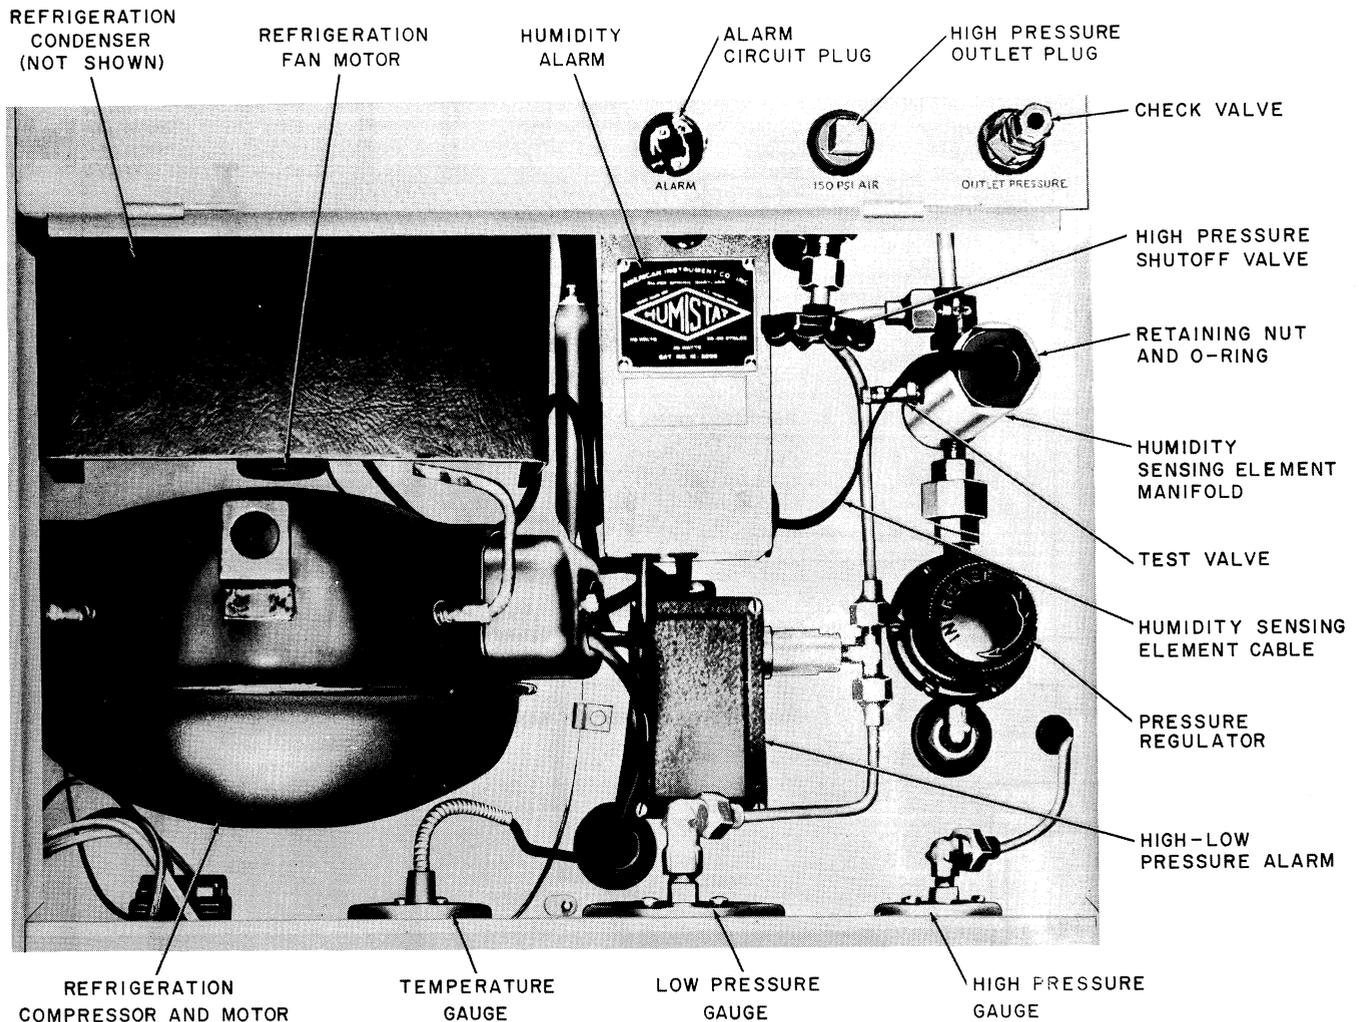

Fig. 3—KS-16432 L1 Air Dryers With Serial Numbers 3000 and Up and All L2 Dryers—Top View With Cover Removed
- 2.18** Connect the central office alarm pair to the alarm plug located at the top rear of the dryer (Fig. 3).